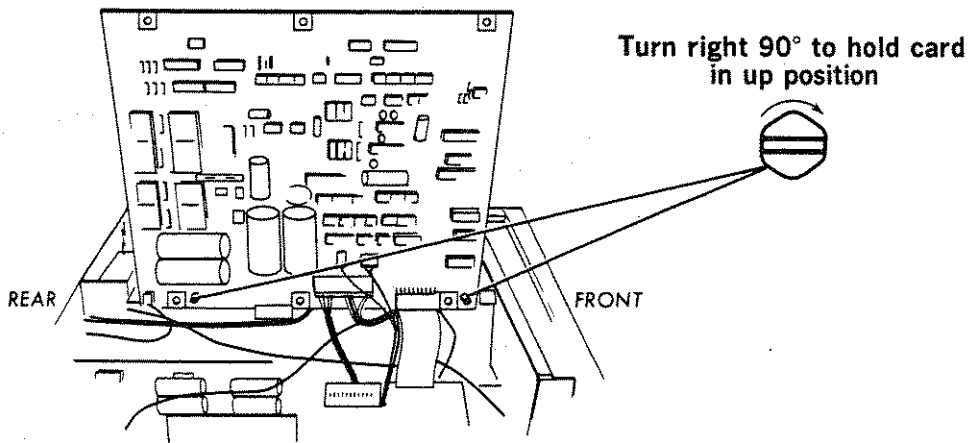

Figure 7-13. Securing the Low Voltage Circuit Assembly
STEP 7. Push the Low Voltage circuit assembly over the two Card Service Supports. Turn the screw heads on each support 90° (1/4 turn) clockwise to secure the circuit assembly. Refer to Figure 7-13. The preparation for moving the Test connector and cable is complete. Proceed to the appropriate section (7.4.1.2 or 7.4.1.3) that follows for the procedure for moving the connector and cable.